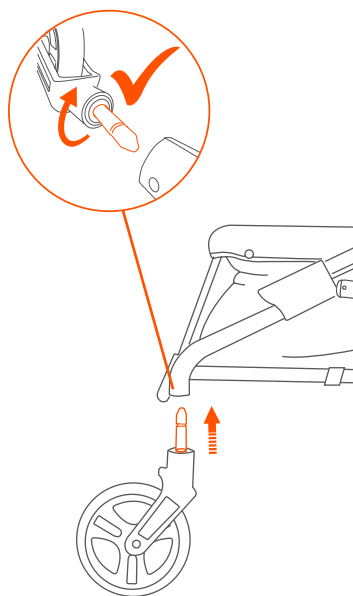

Fig. 2
- 2) • Insert the metal pin on the front wheel into the hole on the front of the wagon frame (Fig. 2).